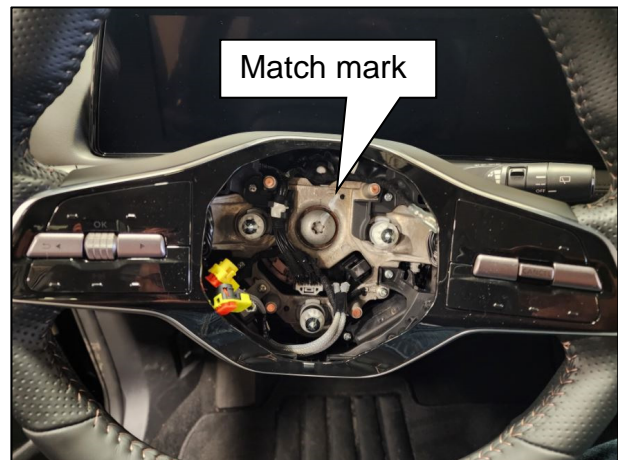

Figure 6
10. Using a suitable paint pen/marker, place a match mark on the steering wheel bolt and the steering wheel, where they meet, as shown in Figure 6.